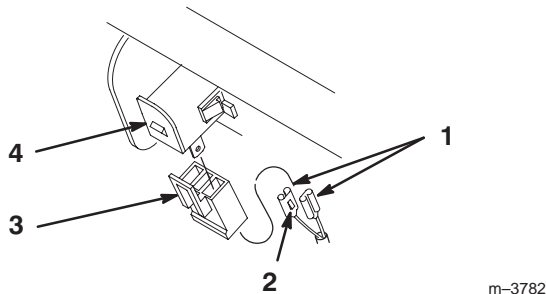

Figure 22
3. Insert terminals into plastic plug until the clips snap into position (Fig. 22). If they do not snap turn around.
4. Push plastic plug onto switch until it latches onto switch (Fig. 22).